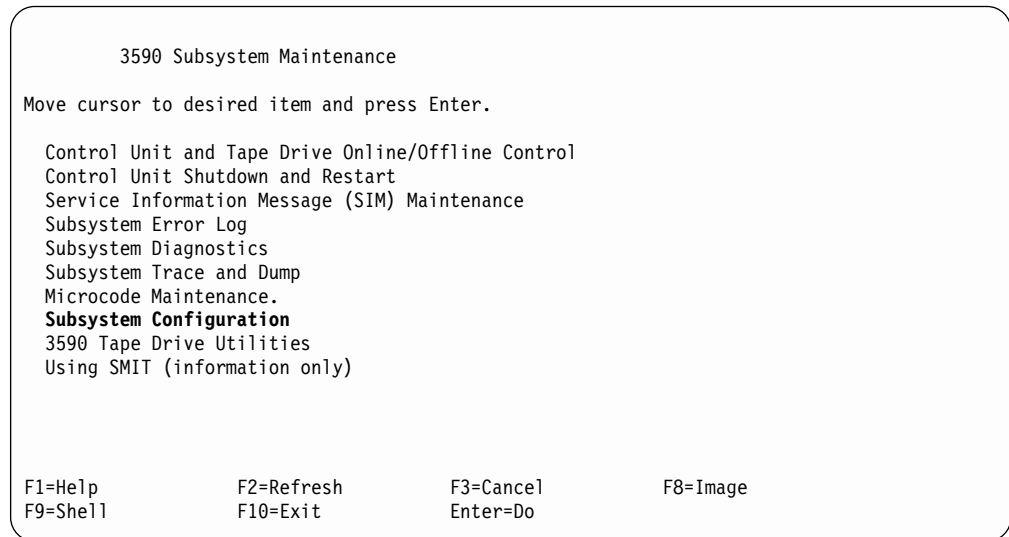

Figure 113. A60 Controller Maintenance Screen
1. Bring up EBTERM go to "Installing EBTERM or Terminal Emulator in a 3494 Library Manager" on page 368. Go to the 3590 Maintenance screen (see Figure 113).